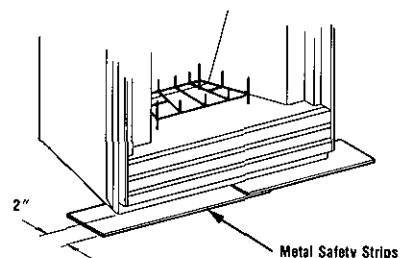

Figure 6
Step 2: Insert the metal hearth strips, packaged with your fireplace beneath the fireplace as illustrated (Figure 6).